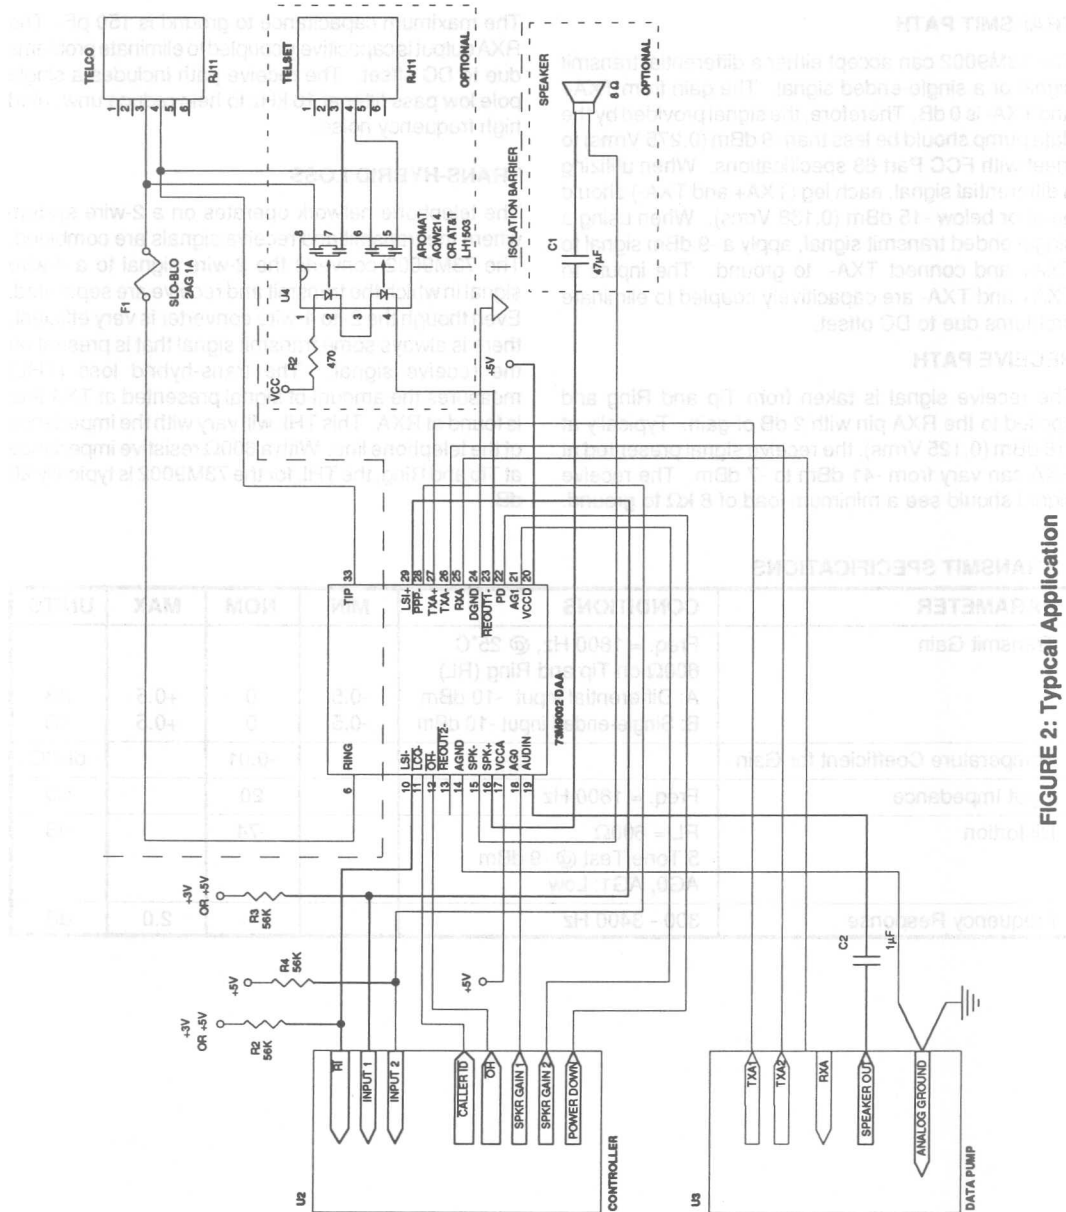

FIGURE 2: Typical Application
In the application, Figure 2, the 73M9002 is being utilized for a high speed fax/modem with Caller ID notification. When a call comes in on the phone line, the Line Status Indicators (LSI+ & LSI-) become active. The controller responds by driving the Power Down (PD) low and the Line/Caller Query (LCQ) low. This wakes the DAA from its Standby mode and properly connects the phone line to the 73M9002 to receive the Caller ID information. This information is then sent to the data pump through the Receive port (RXA). After receiving the Caller ID, the controller drives the LCQ pin high. If the controller decides to answer the call, it drives the Off Hook (OH) low. The DAA goes off-hook thus enabling data to be sent from modem to modem via the Receive and Transmit (TXA+, TXA-) ports.
The TDK 73M9002 has the necessary protection circuitry for FCC Part 68, UL1950, DOC CS-03, CSA, and JATE metallic and longitudinal surge and UL1459 power line cross. The power line cross test can be destructive; therefore, TDK suggests the addition of a fuse to the Tip and/or Ring lines. The fuse should be a 1A, 2 AG slo-blo and can be on either Tip, Ring, or both (See Figure 2).